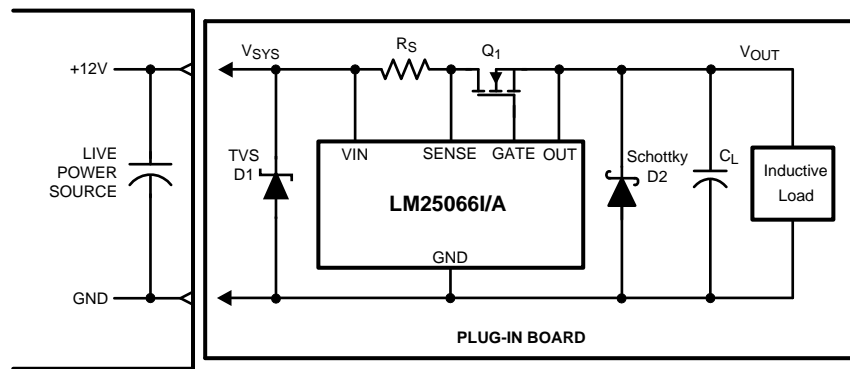

Figure 47. Output Diode Required for Inductive Loads
A) Continued proper operation of the LM25066I/A hot-swap circuit normally dictates that capacitance be present on the supply side of the connector into which the hot-swap circuit is plugged in, as depicted in Figure 47. The capacitor in the “LIVE POWER SOURCE” section is necessary to absorb the transient generated whenever the hot-swap circuit shuts off the load current. If the capacitance is not present, parasitic inductance of the supply lines will generate a voltage transient at shut-off which may exceed the absolute maximum rating of the LM25066I/A, resulting in its destruction. A TVS device with appropriate voltage and power ratings can also be connected from VIN to GND to clamp the voltage spike (see application note AN-2100 SNVA464).
B) If the load powered by the LM25066I/A hot-swap circuit has inductive characteristics, a Schottky diode is required across the LM25066I/A's output along with some load capacitance. The capacitance and diode are necessary to limit the negative excursion at the OUT pin when the load current is shut off. If the OUT pin transitions more than 0.3V negative, the LM25066I/A will internally reset, erasing the volatile setting for retries and warning thresholds. See Figure 47. To alleviate this, a small gate resistance (e.g. 10Ω) can be used. This resistor has the added benefit of damping any high frequency gate voltage oscillations, particularly in paralleled FET arrangements.